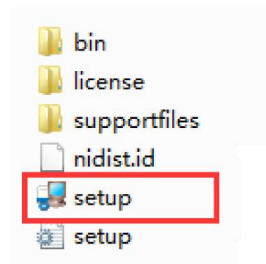

Fig.44 VISA Files
2. After the installation of Labview, install Visual Instrument Software Architecture(VISA), which is provided in the CD folder as shown in Fig.44.